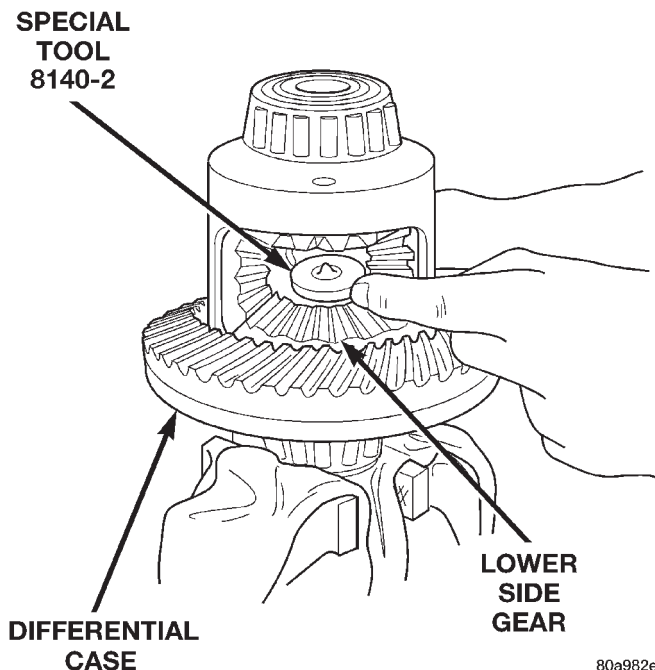
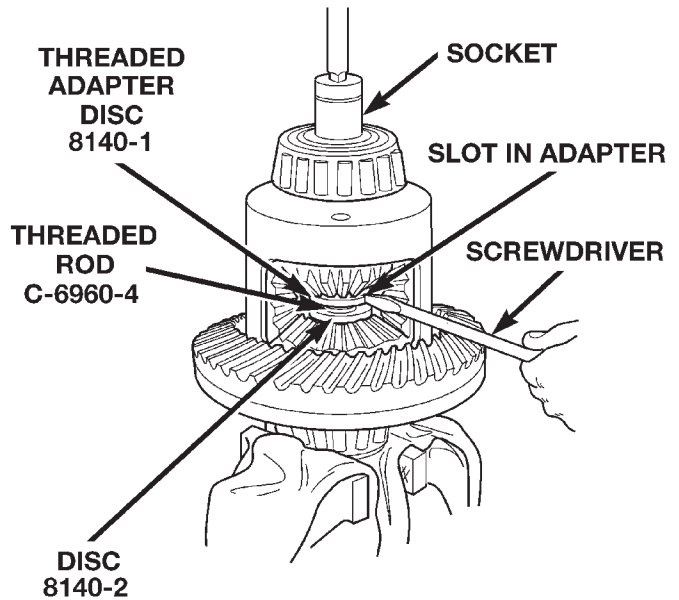

Fig. 45 Step Plate Tool Installation
Fig. 46 Threaded Adapter Installation
- (6) Install and lubricate Step Plate 8140-2 (Fig. 45).
- (7) Assemble Threaded Adapter 8140-1 into top side gear. Thread Forcing Screw 6960-4 into adapter until it becomes centered in adapter plate.
- (8) Position a small screw driver in slot of Threaded Adapter 8140-1 (Fig. 46) to prevent adapter from turning.